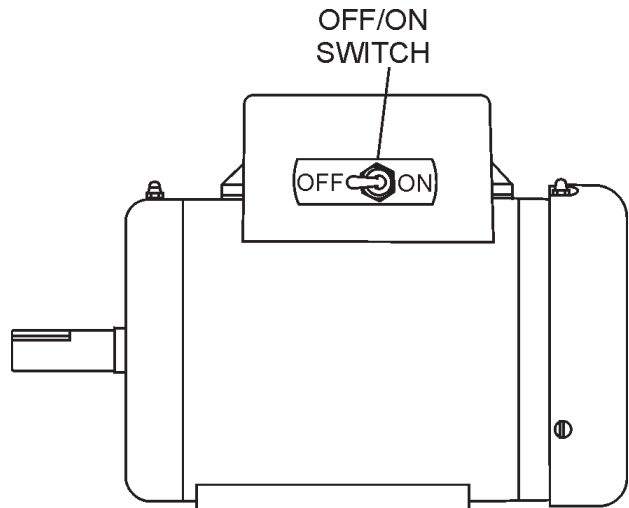

**Figure 25. Start/Stop Button (Stop Position)**
2. Push the engine **start/stop** switch (Figure 25) inward to stop the engine.